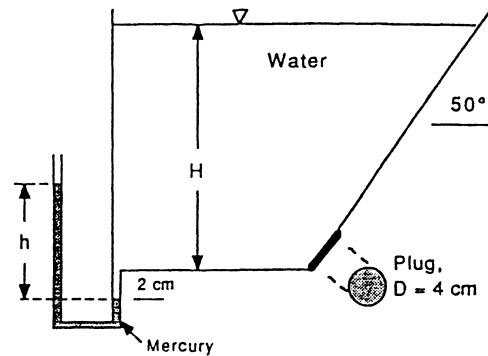

Fig. P2.63
**2.63** The tank in Fig. P2.63 has a 4-cm-diameter plug which will pop out if the hydrostatic force on it reaches 25 N. For  $20^\circ\text{C}$  fluids, what will be the reading  $h$  on the manometer when this happens?